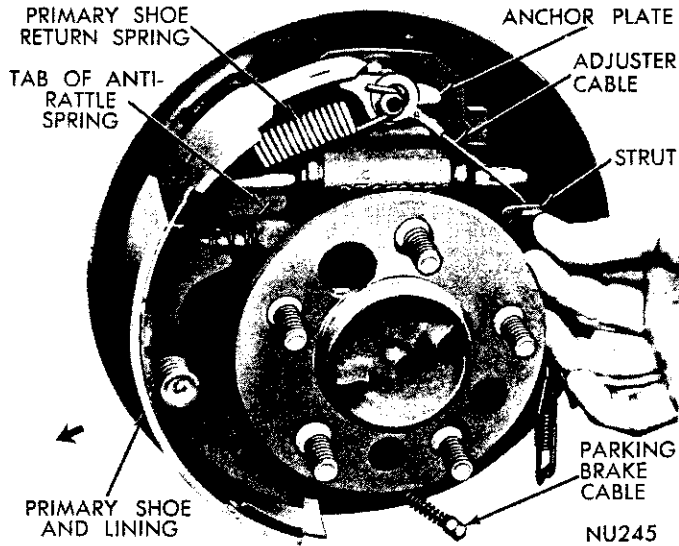

Fig. 8—Removing or Installing Parking Brake Strut and Spring (Left Rear)
(6) Spread anchor ends of primary and secondary shoes and remove parking brake lever strut and anti-rattle spring (Fig. 8).
(7) Disengage parking brake cable from parking brake lever.
(8) Disengage primary and secondary shoes from
(2) Engage parking brake lever with cable, then slide secondary shoe against support plate, and at the same time engage shoe web with push rod (if so equipped), and against anchor.
(3) Slide parking brake strut behind hub and into slot in parking brake lever. Slide anti-rattle spring over free end of strut. (Fig. 8). On ten inch brakes, be sure spring tab is pointing rearward and up on outside of shoe web (Left Brake), and pointing frontward and down behind shoe web (Right Brake) (Fig. 8). On eleven inch brakes, be sure spring tab is pointing forward and down and outside of shoe web (Left Brake), and pointing frontward and down behind shoe web (Right Brake) (Fig. 3).